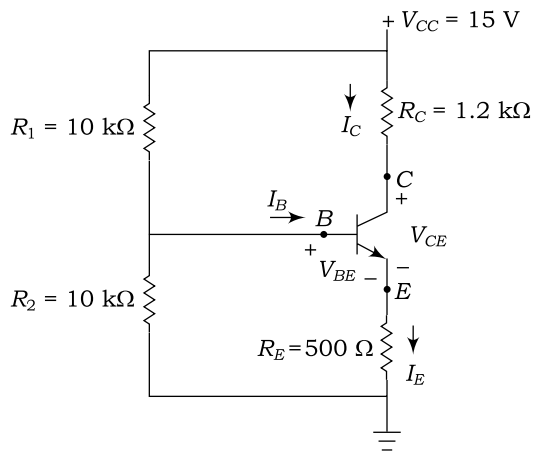

Fig. 2.123
50. Figure 2.123 shows a transistor amplifier circuit. Determine the percentage change in collector current when the transistor with $\beta = 60$ is replaced by the transistor with $\beta = 100$. Assume $V_{BE} = 0.7$ V.